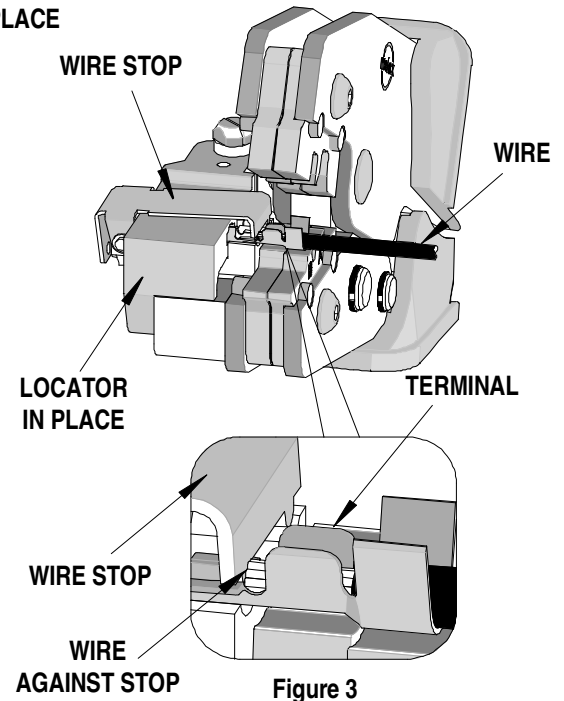

Figure 3
5. Insert the proper wire over the terminal. Some large O.D. wires may need to be placed into the terminal before closing the tool. Gently touch the wire stop with the end of the wire. See Figure 3.